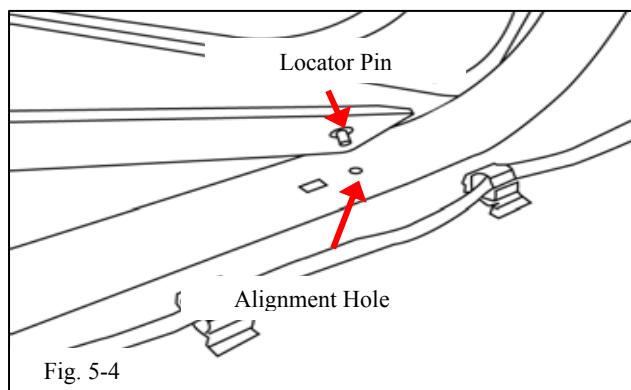

Fig. 5-4
(3) Once the sill is in the proper position, apply firm pressure to the sill, working from the center outward, making sure the perimeter of the sill is adhered to the rocker surface. (Fig. 5-4)